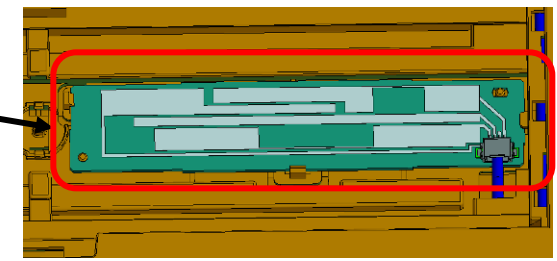

Fig.2
- Reseat the spring while taking care of the direction of the spring (the end of the coil comes to lower right of the red line below (Fig.2)